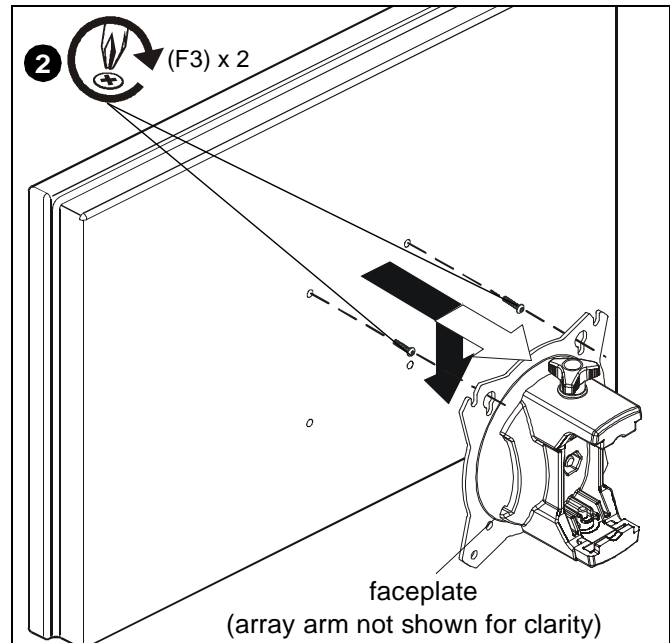

Figure 7
- Using Phillips screwdriver, carefully install two M4 x 12mm Phillips pan machine screws (F3) into the *upper* mounting holes on the display. Thread screws completely into display, then back out 3 complete turns. (See Figure 7)
- Pick up and align display so that screws (F3) (installed on the back of the display in the previous step) fit into the mounting holes on the faceplate. Lower the display firmly into place. (See Figure 7)